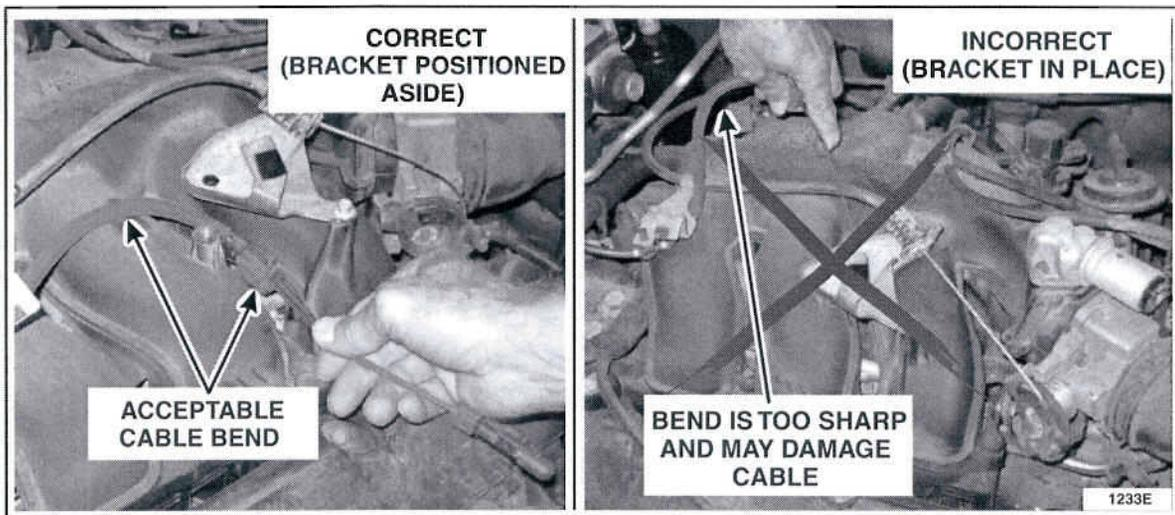

FIGURE 2
- If the cable is disconnected, reconnect the speed control cable to the throttle body before proceeding to step 3. See Figure 2. To reconnect the cable: